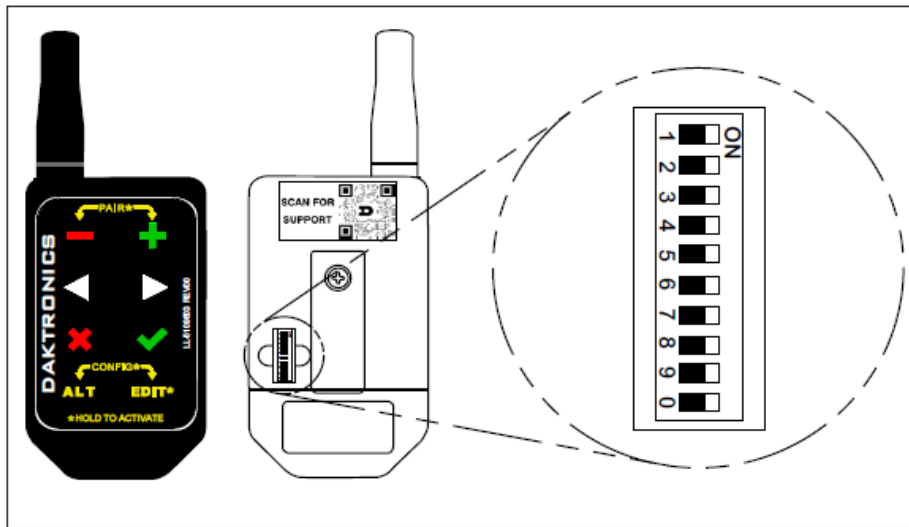

Figure 4: FLR5 Key Fob
1. Remove the small cover on the back of the FLR5-400 key fob. Refer to Figure 4.